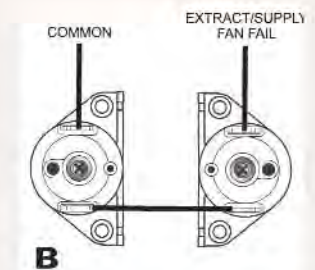

Figure 9
- If 2 wires are available see Figure 9. This is if either fan fails it will trigger an alarm.